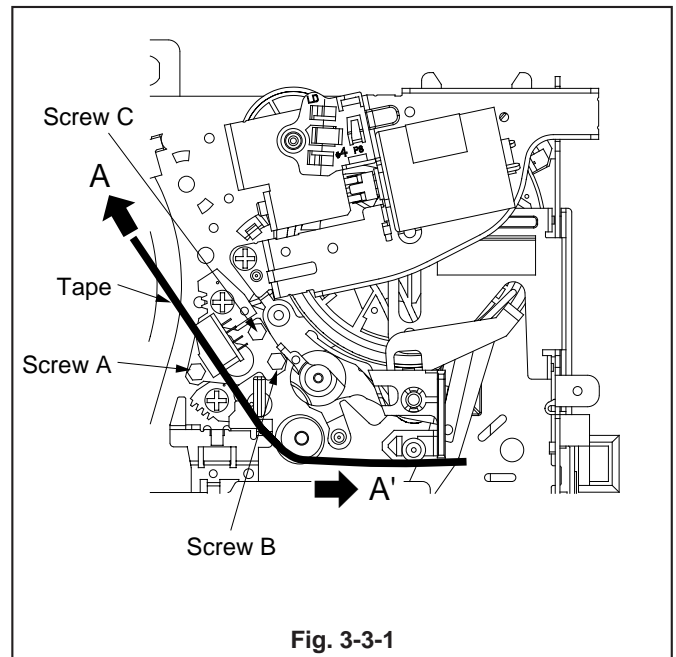
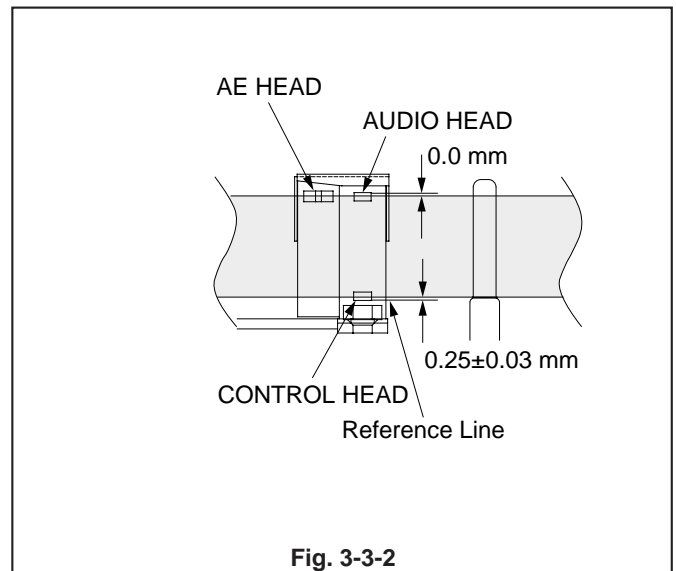

Fig. 3-3-1
Fig. 3-3-2
2. Slowly turn the slant adjustment Screw C shown in the Fig. 3-3-1 counter-clockwise to slightly crease the bottom of the tape at the Lower FLANGE of the GUIDE POLE (TU).
1. If the height of the CONTROL HEAD is shifted from the specified value in the Fig. 3-3-2, adjust it with the Height Adjustment Screws A, B and C shown in the Fig. 3-3-1.
5. Turn the Azimuth Adjustment Screw B in the Fig. 3-3-1 to set the audio output level in the Fig. 3-3-1 at the maximum. After the adjustment, remove the screw driver and confirm that the audio output level is 4.6 divisions or more when the maximum audio output level is set to 5. If the audio output level is less than 4.6, repeat steps 1 ~ 5.
6. Push the A/C HEAD to the right and left (in the direction of A-A' in the Fig. 3-3-1) and release it. And confirm that the audio output level does not change. (Do not push the A/C HEAD until the audio output level is reduced to 3/4 or less of its maximum level.)
9. If the above procedure steps 1 ~ 8 proves to be unsatisfactory, replace the TAPE GUIDE ASSY (SP) and the TAPE GUIDE ASSY (TU), according to the Item 2-32. "TAPE GUIDE ASSY (SP), TAPE GUIDE ASSY (TU)".